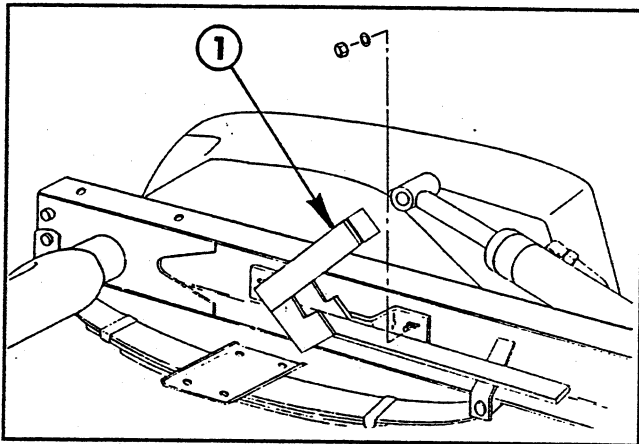

FIG. 8
30. Loosen and remove the (2) 3/8" nuts and attaching bolts that hold the left rear fender to the vehicle frame. Install a 10 GA. flat washer on each bolt and install the bolt through the fender and vehicle frame and mount the tank support bracket with these bolts. Reinstall the nuts and tighten securely. See FIG. 8.